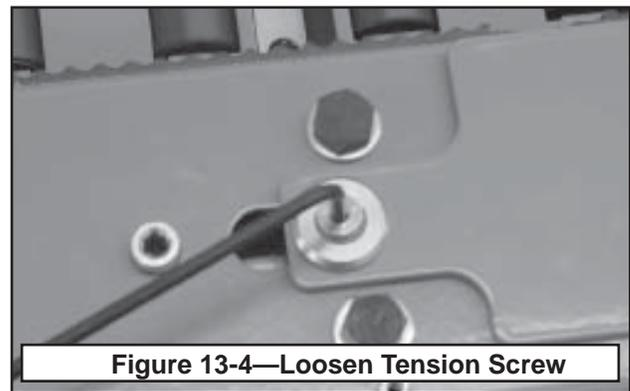

Figure 13-4—Loosen Tension Screw
2. Using a 6mm allen wrench, loosen (counter-clockwise) tension screw until all belt tension is removed (as shown in **Figure 13-4**).